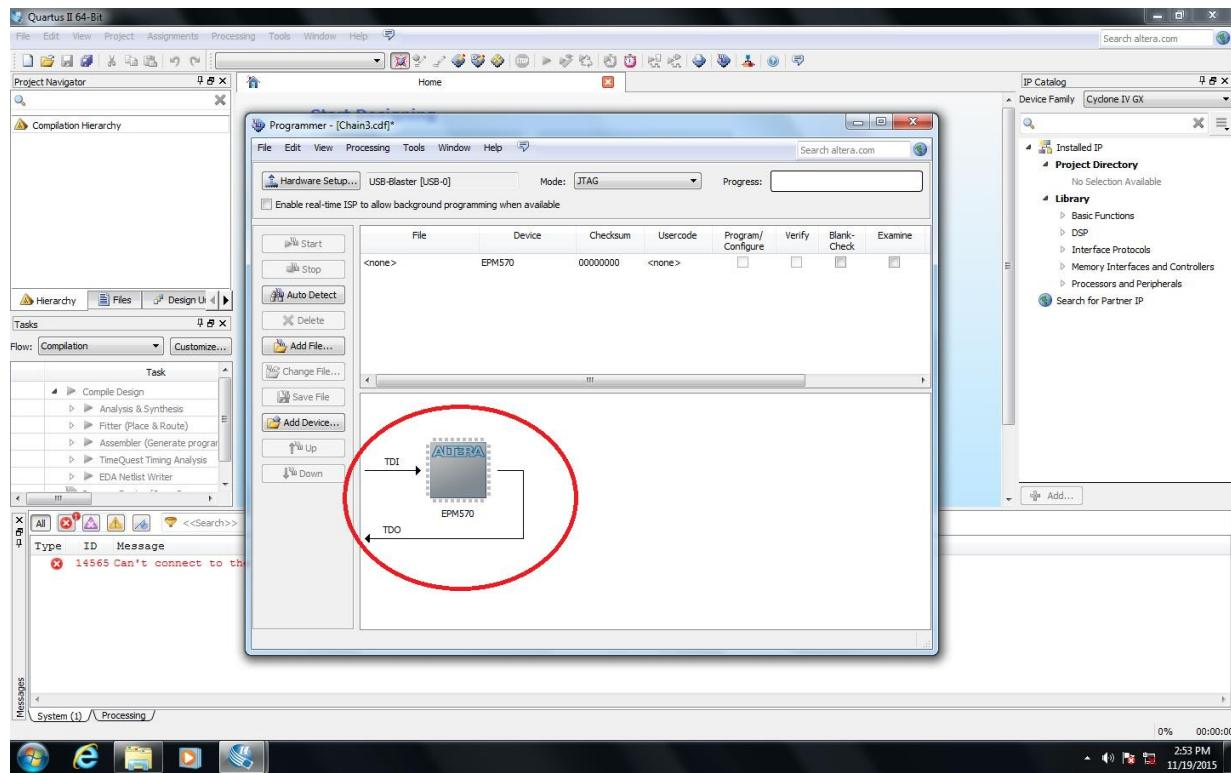

Figure 30: Detecting device
- Click on *Auto Detect* tab to detect device. On successful detection, the window looks exactly as figure 30.